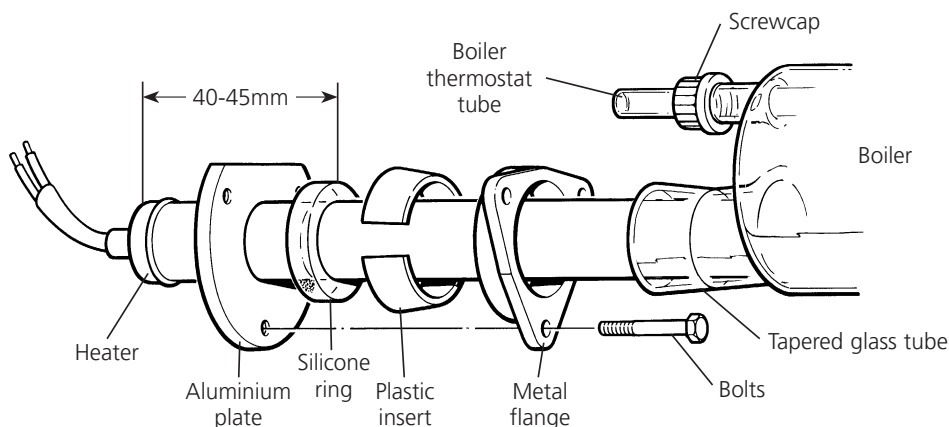

Figure 2 Heater and thermostat tube assembly
4. Take the boiler, the heater and the gasket kit and assemble as shown in **figure 2**.
iii) Place the aluminium plate, followed by the silicone ring over the heating element and locate approximately 40-45mm from the end with the electric cable, see fig. 2.